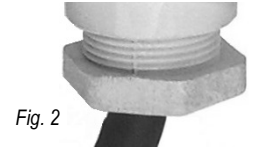

Fig. 2
- Tighten the barrel nut of the compression gland so that the rubber seal grips the cable (Fig 2).